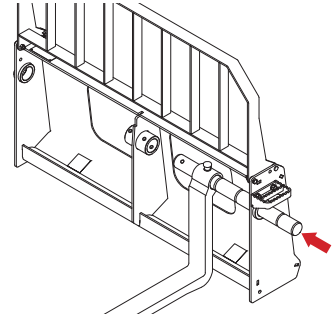

Figure 9
3. Move the first tyne in place and insert the rod through the tyne hole. (Figure 9).